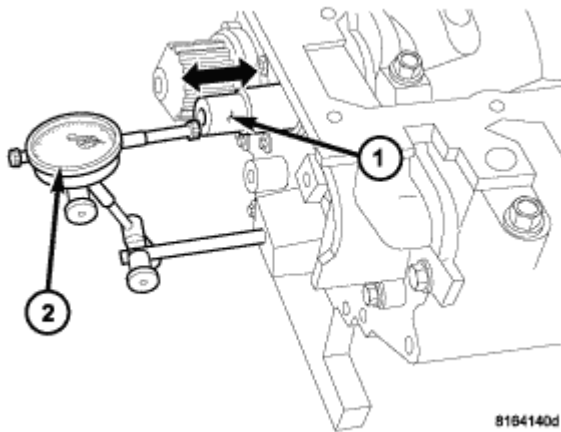

Fig. 194: Measuring Crankshaft End Play
1. Mount a dial indicator (2) to front of engine with the locating probe on nose of crankshaft (1). See **Fig. 194**.